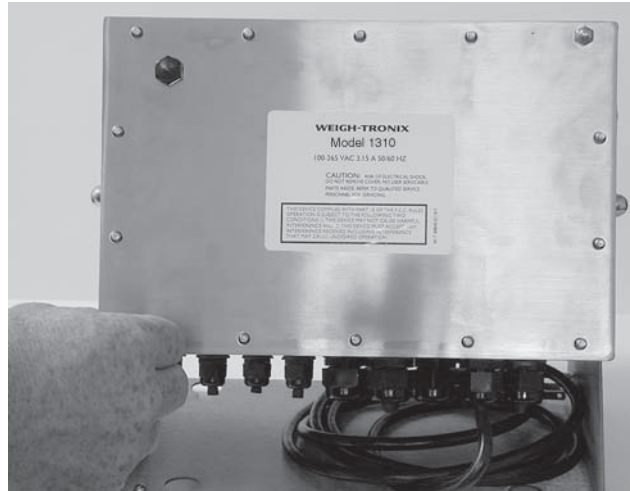

Figure 10
2. Remove the 14 acorn nuts holding the rear panel to the case. See Figure 10.